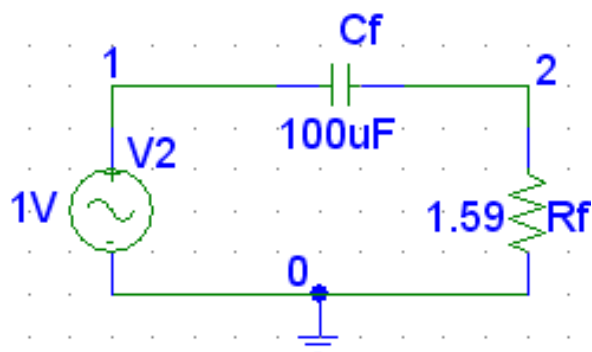

Figure 3
- (1) Determine the cutoff frequency of the high-pass filter shown in figure 3 by analyzing it using Netlist.
- (2) Cascade the low-pass and high-pass filters shown in figure 2 and figure 3. This arrangement will work as what type of filter? What will the cutoff frequencies?